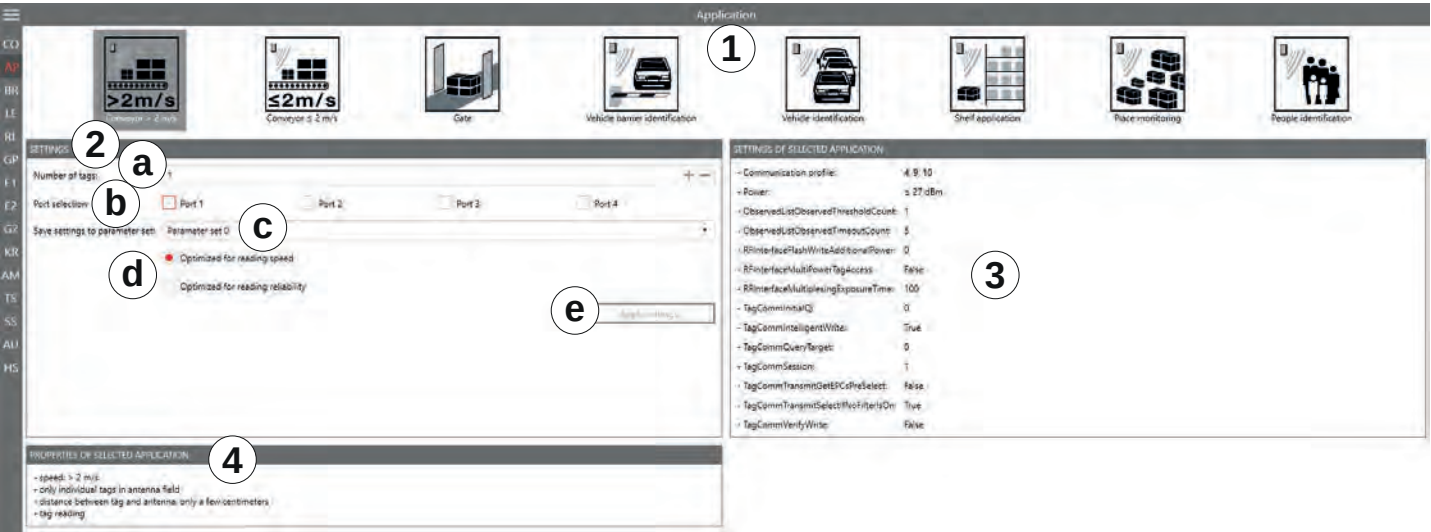
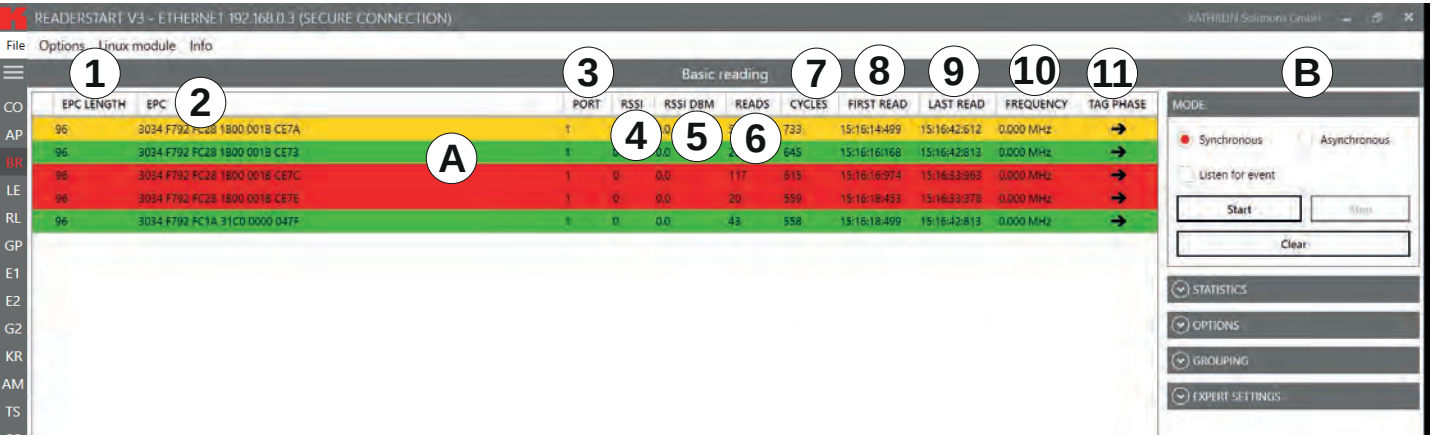

Fig. 51: Application Tab
Fig. 52: Basic reading
- Click *Start* (④ in Fig. 52) to start the reading.
- Click *Stop* (⑤) to stop the reading.
- Click *Clear* (⑥) to remove all tag entries from the table (Ⓐ in Fig. 51)